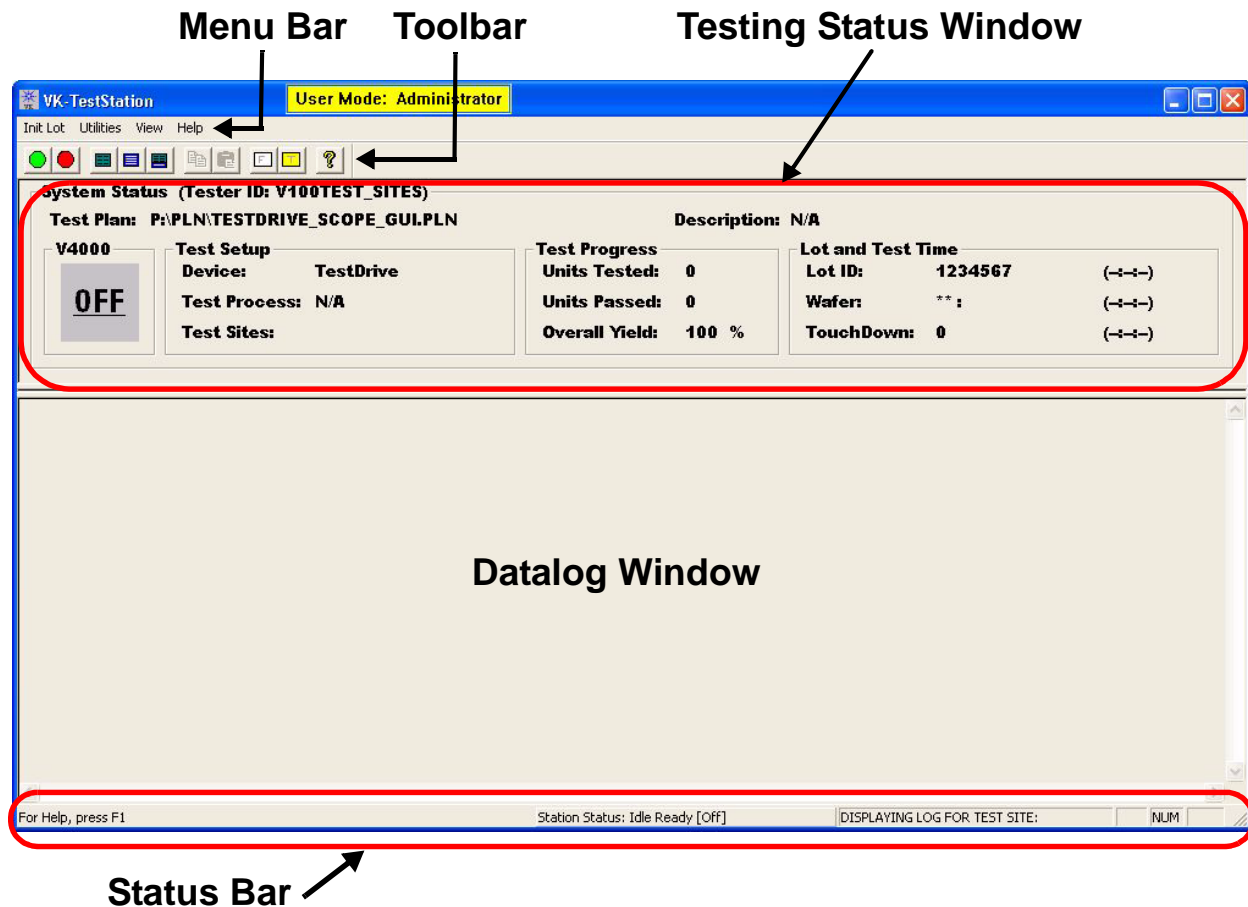

Figure 6-44. VK Test Station Main Window
- 1 Selecting  > All Programs > Versatest Test System Software > VK Test Station displays the VK Test Station main window (similar to Figure 6-44). Note that the Status Bar displays Station Status: Idle Ready NO PHYSICAL SITE CONFIGURED that indicates the test sites are powered off and no plan file is loaded.
- 4 Selecting the `TestDrive_scope_gui.PLN` plan file and then selecting **Open** displays the Initialize Test Station Setup dialog box with the plan file displayed in the Test Plan field (Figure 6-44 on page 256).